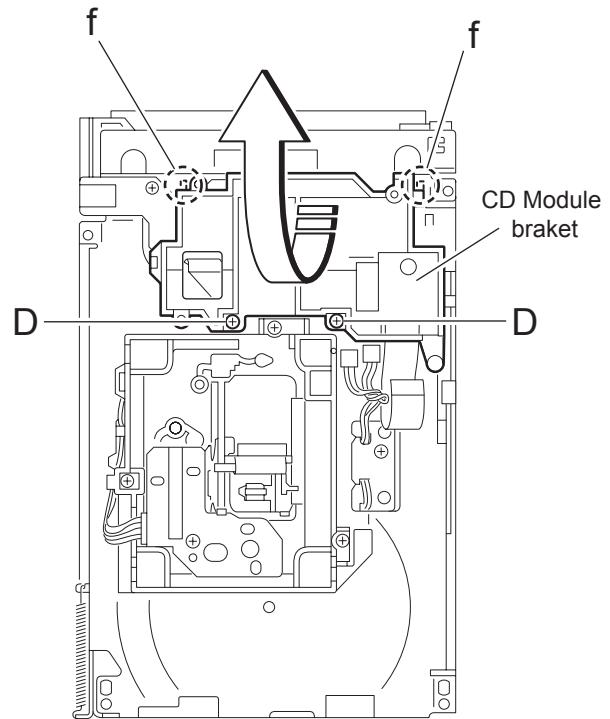

Fig.10
3.2.4 Removing the motor board (See Fig.10 , 11)